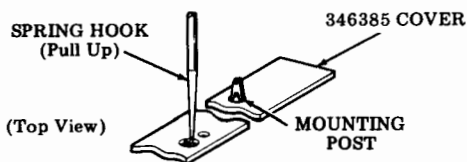

Fig. 14—Cover Removal
- (d) Remove the circuit card cover located in front of the control keys from the channel. Use a spring hook to remove the cover from the mounting posts (Fig. 14).